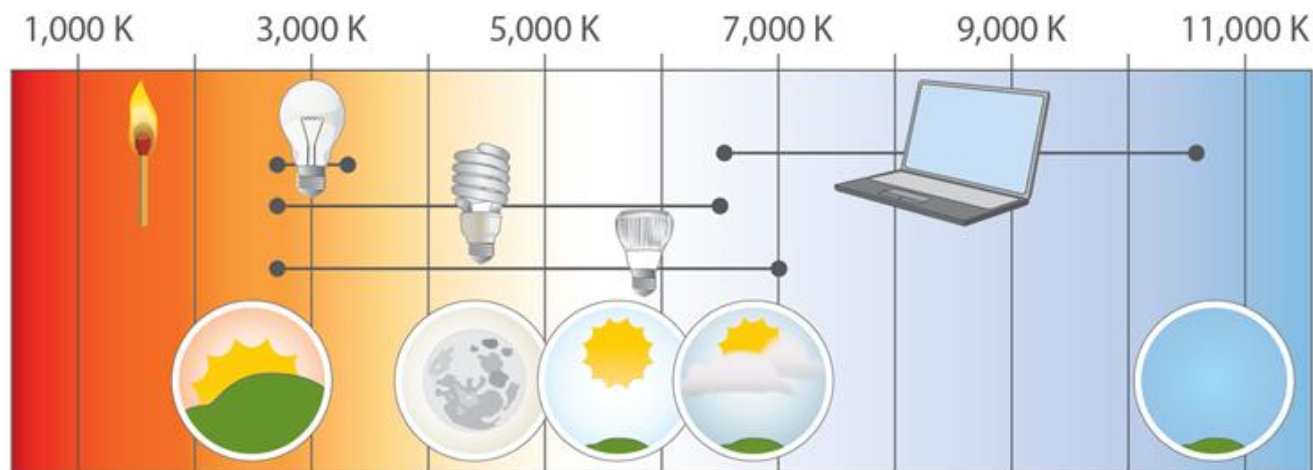

Figure 2 The Kelvin scale of light colour temperatures
- The colour temperature represents the 'feel' of the light: a 'warm' yellow (or pink-white) light versus a 'cold' blue-white light; this is usually stated in Kelvin (K), the unit of absolute temperature (Figure 2).